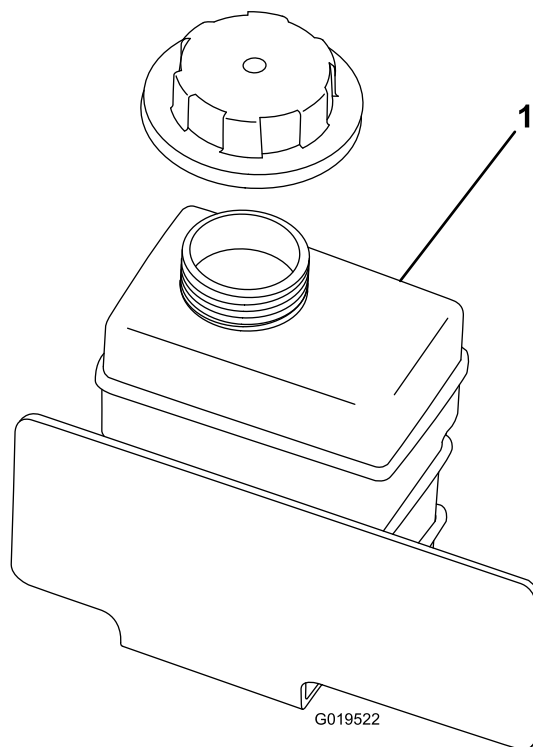

Figure 51
3. Slowly fill the reserve tank until level reaches the bottom of the filler neck (Figure 51). **Do not overfill the reservoir.**
5. Install the reserve tank cap (Figure 51).